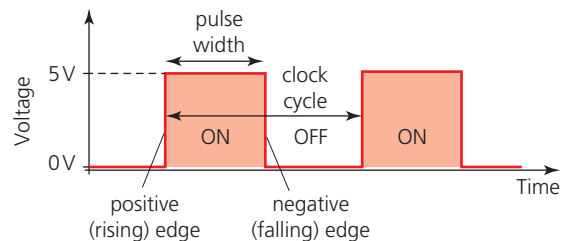
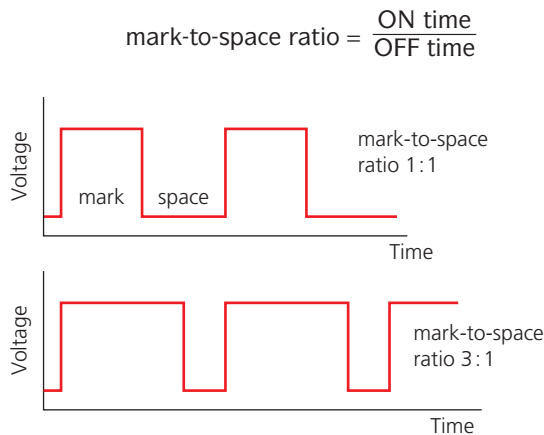

Figure 24 Clock pulses
Figure 25 Clock pulses with different mark-to-space ratios
An **astable** is an oscillator circuit that produces a continuous output of regular ON–OFF pulses that can be used as clock pulses. Sequential logic circuits (see Electronics section 4.2) use clock pulses for synchronisation – they depend on the frequency and width of an input clock pulse to activate their switching action. Clock pulses are continuous and are rectangular in shape, going from a low (OFF), normally 0V, to a high (ON), usually 5V, with constant period, as shown in Figure 24.
The time for which the pulse is high or ON – the pulse width – is sometimes called the ‘mark’, and the time for which the pulse is low or OFF is then called the ‘space’. In Figure 24 the pulse is ON for the same time as it is OFF, but in general the mark and the space do not need to be of equal duration (see Figure 25). We define the **mark-to-space ratio** as
So, for the clock pulses in Figure 25, when the mark-to-space ratio is 1:1, the duty cycle is 50%, and when the mark-to-space ratio is 3:1, the duty cycle is  $\frac{3}{4} \times 100\% = 75\%$ .